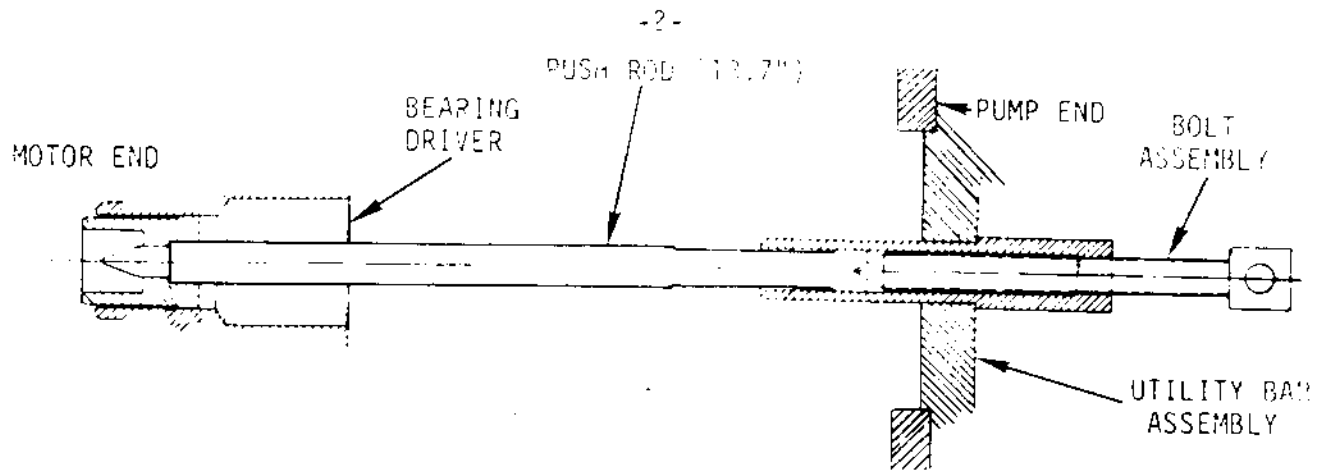

FIGURE 1 - Removing Small Bearing
2. The small bearing nearest the motor must be pushed out the motor side, from the oil pump end, using the bearing driver, push rod and utility bar, assembled as shown in Figure 1. Use a liberal amount of compressor oil on the tools to prevent excessive wear.